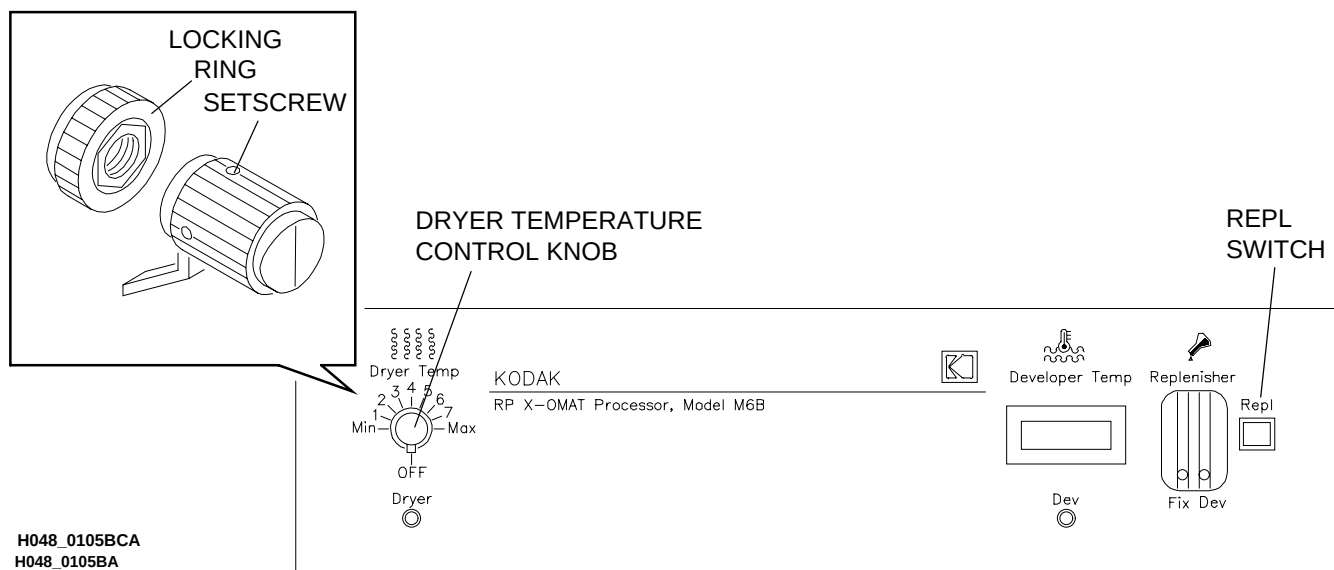

Figure 39 Adjusting the Dryer Temperature Control Knob
- [2] With the 2 GRADUATED CYLINDERS under the REPLENISHMENT CHECK TUBES, turn the VALVES on and press the "REPL" SWITCH. See Figure 39 on page 39, if necessary. Run the PUMP to purge air from the system.